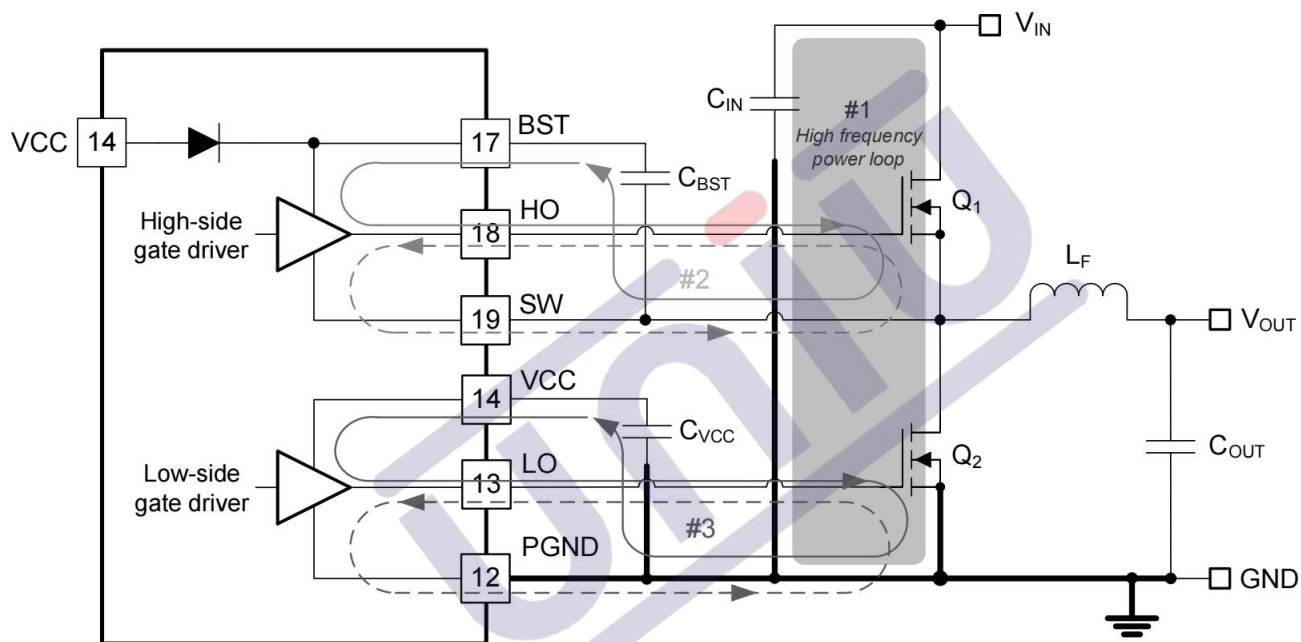

Figure 70. DC/DC Regulator Ground System With Power Stage and Gate Drive Circuit Switching Loops
Proper PCB design and layout is important in a high-current, fast-switching circuits (with high current and voltage slew rates) to assure appropriate device operation and design robustness. As expected, certain issues must be considered before designing a PCB layout using the U3401/2. The high-frequency power loop of the buck converter power stage is denoted by #1 in the shaded area of Figure 70. The topological architecture of a buck converter means that particularly high di/dt current flows in the components of loop 1, and it becomes mandatory to reduce the parasitic inductance of this loop by minimizing its effective loop area. Also important are the gate drive loops of the low-side and high-side MOSFETs, denoted by 2 and 3, respectively, in Figure 70.
- 1) Loop #1: The most important loop to minimize the area of is the path from the input capacitor(s) through the high- and low-side MOSFETs, and back to the capacitor(s) through the ground connection. Connect the input capacitor(s) negative terminal close to the source of the low-side MOSFET (at ground). Similarly, connect the input capacitor(s) positive terminal close to the drain of the high-side MOSFET (at V_{IN}). Refer to loop #1 of Figure 70.
5. The SW pin connects to the switch node of the power conversion stage and acts as the return path for the high-side gate driver. The parasitic inductance inherent to loop #1 in Figure 70 and the output capacitance (C_{oss}) of both power MOSFETs form a resonant circuit that induces high frequency (>100 MHz) ringing on the SW node. The voltage peak of this ringing, if not controlled, can be significantly higher than the input voltage. Ensure that the peak ringing amplitude does not exceed the absolute maximum rating limit for the SW pin. In many cases, a series resistor and capacitor snubber network connected from the SW node to GND damps the ringing and decreases the peak amplitude. Provide provisions for snubber network components in the PCB layout. If testing reveals that the ringing amplitude at the SW pin is excessive, then include snubber components as needed.
Loop2:high-side MOSFET, Q_1 . During the high-side MOSFET turn-on, high current flows from the bootstrap (boot) capacitor through the gate driver and high-side MOSFET, and back to the negative terminal of the boot capacitor through the SW connection. Conversely, to turn off the high-side MOSFET, high current flows from the gate of the high-side MOSFET through the gate driver and SW, and back to the source of the high-side MOSFET through the SW trace. Refer to loop #2 of Figure 70.
Loop3:low-side MOSFET, Q_2 . During the low-side MOSFET turn-on, high current flows from the VCC decoupling capacitor through the gate driver and low-side MOSFET, and back to the negative terminal of the capacitor through ground. Conversely, to turn off the low-side MOSFET, high current flows from the gate of the low-side MOSFET through the gate driver and GND, and back to the source of the low-side MOSFET through ground. Refer to loop #3 of Figure 70.